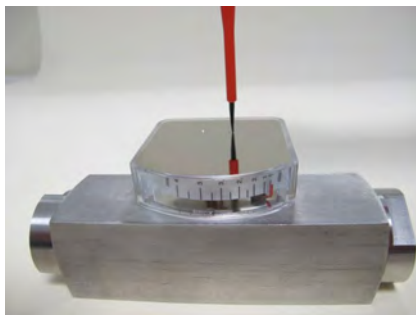

Fig. 66
25. ▶ Fasten the screws securing the display cover plate, observing the proper tightening torque (Fig. 66) (*Chapter 11.1 "Tightening torque" on page 81*).